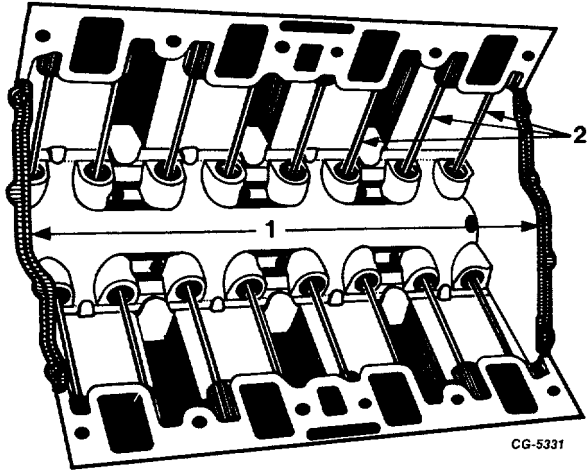

Fig. 38 Intake Manifold Seals
38. Remove intake manifold seals, Figure 38.